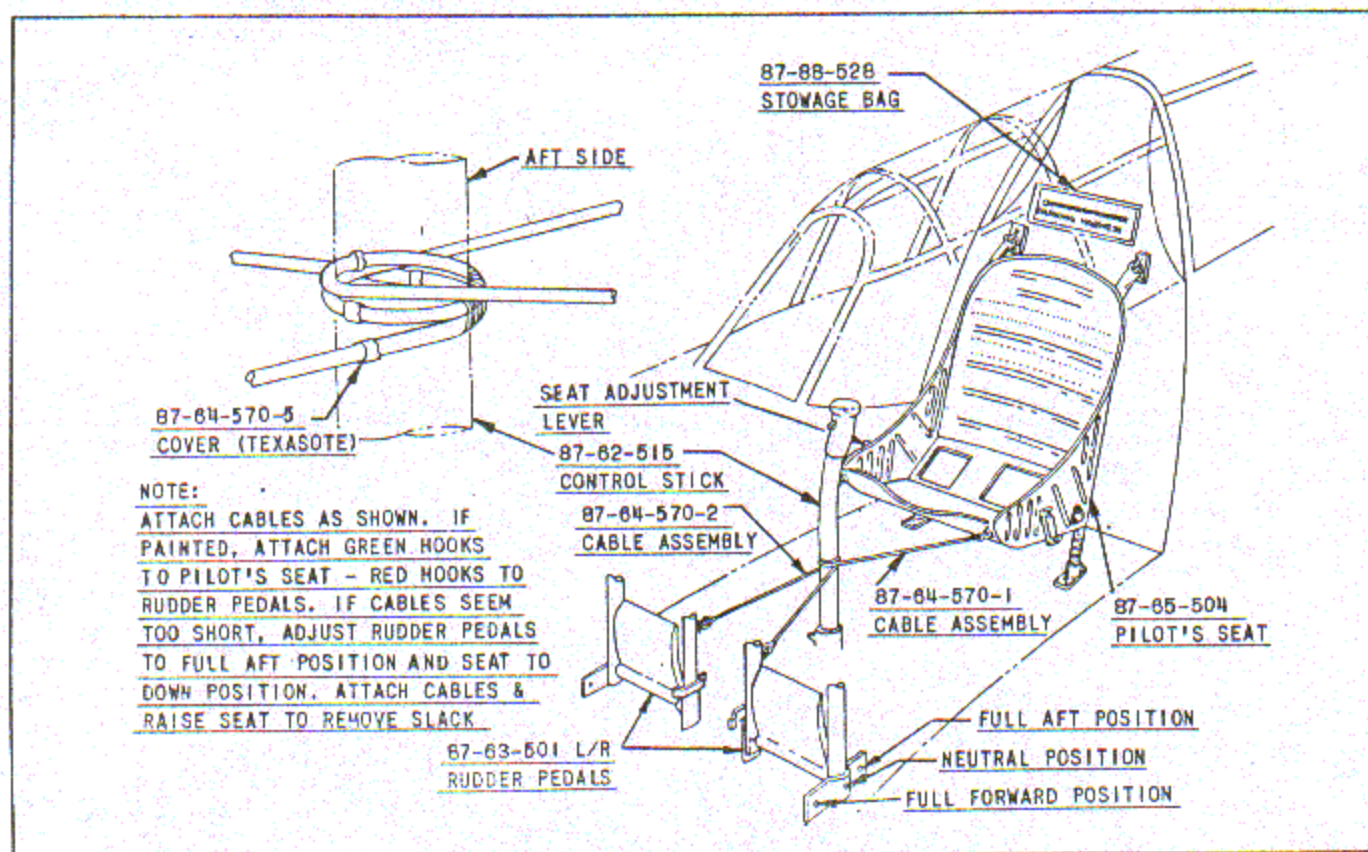

Fig. 7 - Parking harness attached.
i. Surface Control Parking Harness. - The flight control surfaces are locked by rigging the parking harness (87-64-570) around the control stick. The parking harness is stowed in a small compartment below the pilot's head rest. The method of attaching the parking harness is shown in Figure 7.